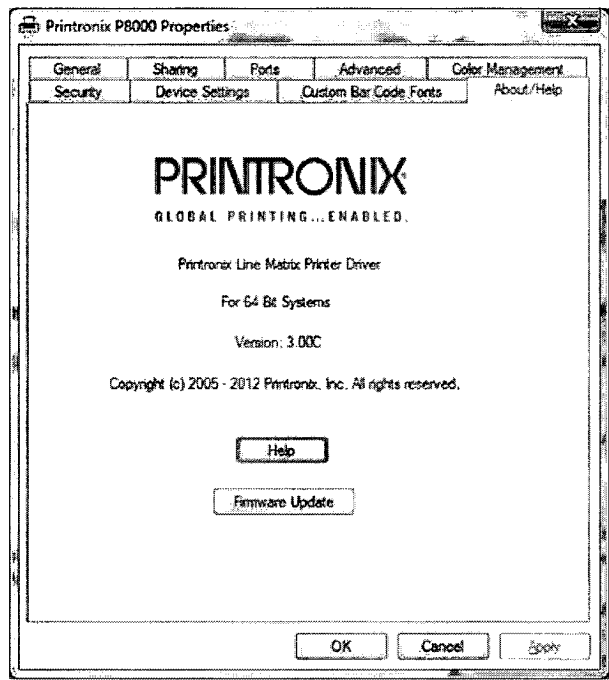

Figure 23. Updating Firmware
- 5. Click the **Firmware Update** button as in Figure 23.